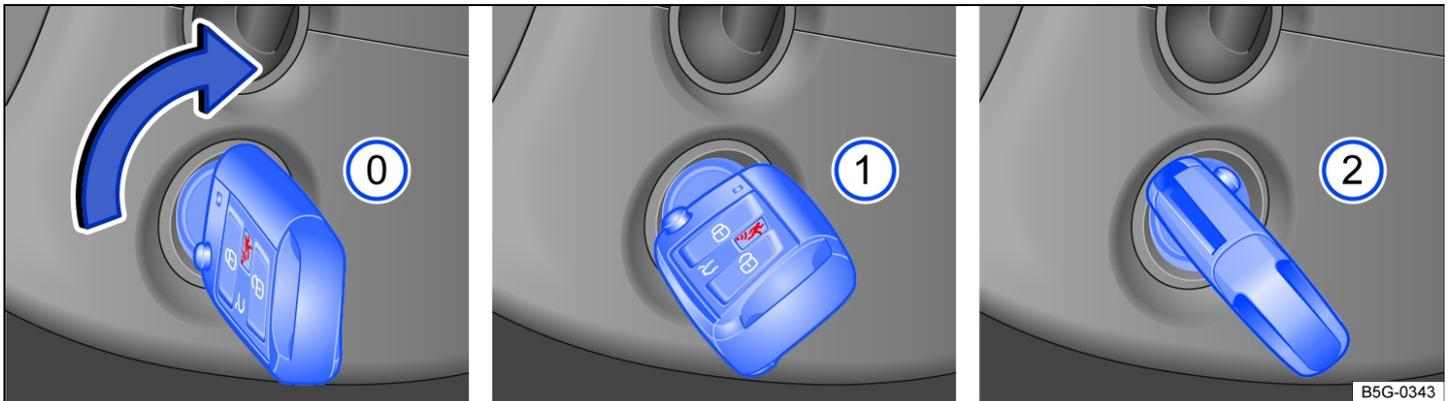

Fig. 113 Next to the steering wheel on the right side: positions of the vehicle key in the ignition lock.
Vehicle key positions *fig. 113*
- 2 Press the brake pedal when the  indicator light is green. Start the engine. Release the vehicle key once the engine has started. The vehicle key returns to the position *fig. 113* once it is released.